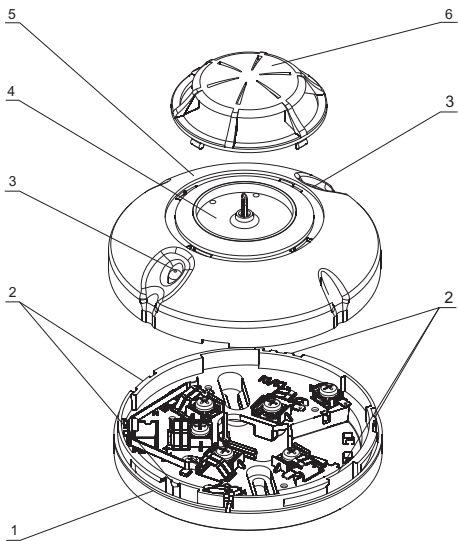
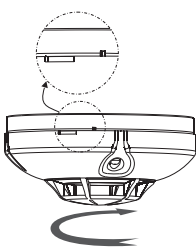
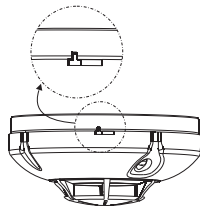

Fig.1
Fig.3.1
Fig.3.2
The circuit board and a chamber containing thermosensitive element (Fig.1, position 4) are mounted within the plastic body (Fig.1, position 5). Two LEDs, (Fig.1, position 3), offering 360° visibility, illuminate to indicate the following:
3. Replace the detector head on the base and rotate it in a clockwise direction to reach the base's leading channels (Fig.1, position 2). Continue rotating in a clockwise direction to complete location (Fig.3.1). The bench marks of the head and the base should fully coincide (Fig. 3.2).
2. Wait until the fire detector is set to Duty Mode and from a 20 cm distance influence the device using a heat tester. Within 40 seconds the fire detector shall enter fire condition and the LEDs (Fig.1, position 3) shall illuminate continuously.
* To complete task №3, remove the detector's upper part (Fig. 1, position 6). Clean using a small brush. The upper part is removed by rotating it anticlockwise until rest.